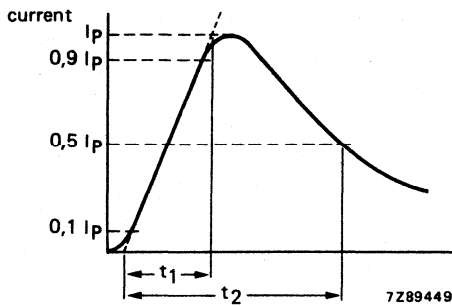

Fig. 5.
6. High energy surges are generally of longer duration. The max. energy for 1 impulse 10/1000  $\mu\text{s}$  is given as a reference for long duration impulses. This impulse can be characterized by peak current  $I_p$  and impulse width  $t_2$  (virtual time to half  $I_p$  value, defined in IEC 60-2 section 6), see Fig. 5. If  $V_p$  is the clamping voltage corresponding to  $I_p$ , the energy absorbed in the VDR is determined by equation  $E = K \cdot V_p \cdot I_p \cdot t_2$ ; K depends on  $t_2$ . When  $t_1$  is 8 to 10  $\mu\text{s}$  and  $t_2 = 20 \mu\text{s}$ ,  $K = 1$ ; when  $t_2 = 50 \mu\text{s}$ ,  $K = 1,2$ ; when  $t_2 = 100 \mu\text{s}$ ,  $K = 1,3$ ; when  $t_2 = 1000 \mu\text{s}$ ,  $K = 1,4$ .